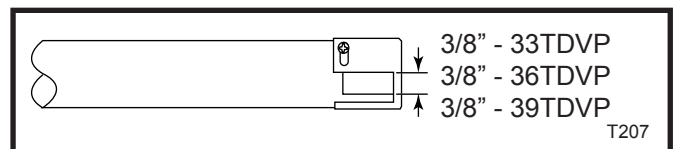

Fig. 46 Air shutter settings for propane/LP gas.
7. Set the air shutter opening for propane/LP gas. (Refer to Figure 46 and Chart on Page 34) Tighten air shutter screw.